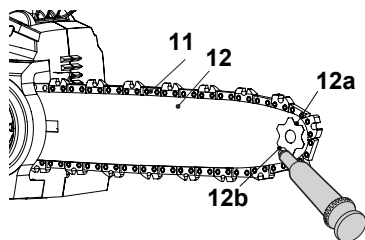

Fig. 38
2. Using a disposable lube gun, insert the needle nose into the lubrication hole (12b) (Fig. 38) and inject grease until it appears at the outside edge of the sprocket wheel (12a).